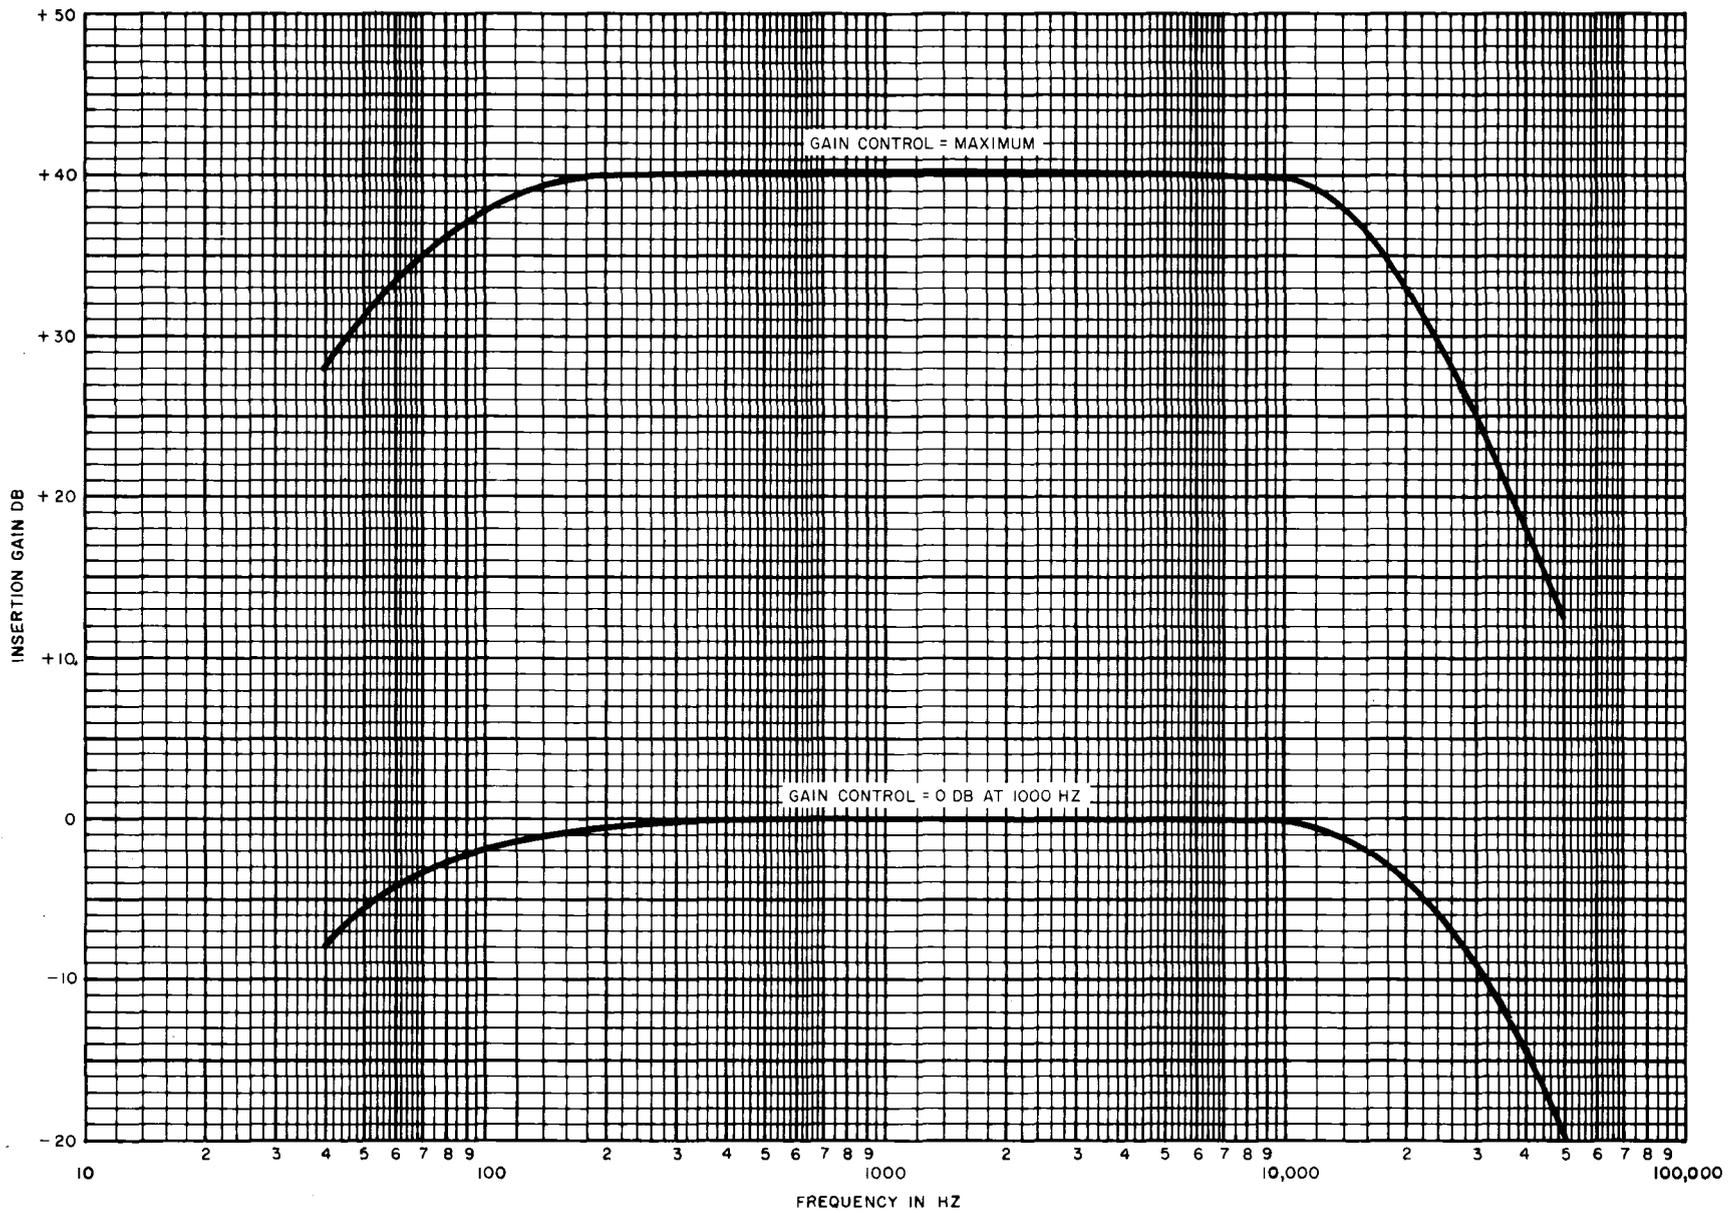

Fig. 5—KS-20378 Amplifier Gain-Frequency Characteristics
**4.02** The gain-frequency characteristics of the amplifier are shown in Fig. 5. The upper curve shows maximum gain of the amplifier, and the curve is essentially flat between 200 and 10,000 Hz. The other curve, labeled 0 dB gain at 1000 Hz, is essentially flat from 1000 Hz to 10,000 Hz.